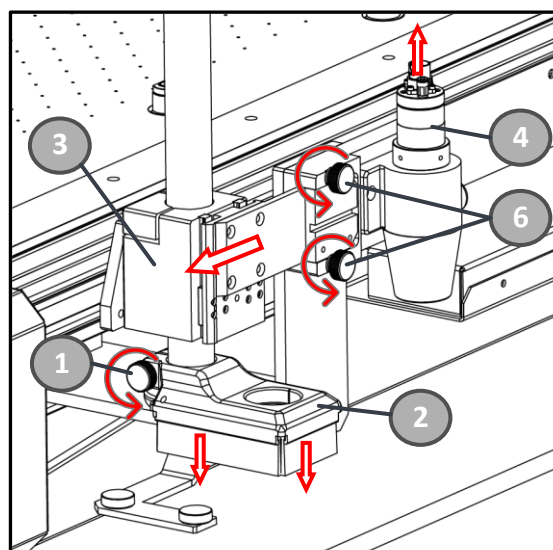

Figure 7-38
Warning: The suction hood (2) must be positioned facing outward from the machine when not in use Figure 7-38 to avoid collisions with the moving parts of the machine.